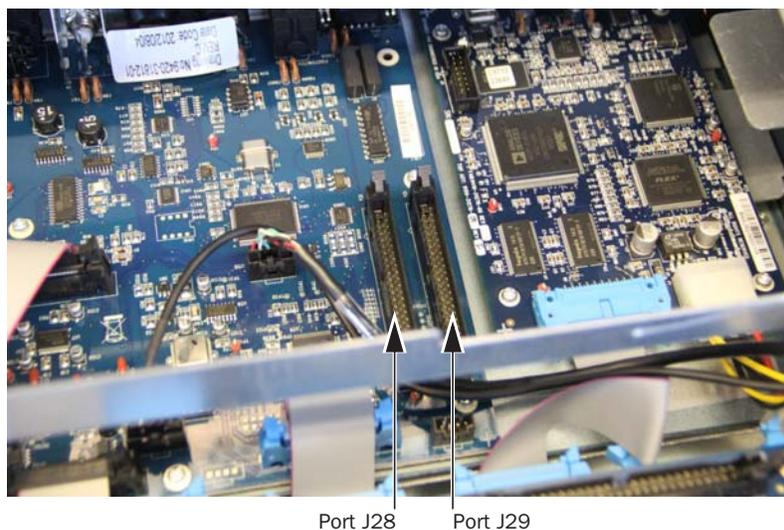

Figure 2-10 Main I/O card in SC48 and the ribbon cable ports
1. Inside the console, locate the Main I/O card (under the now-removed output cards), and connect the two included ribbon cables to the ports J28 and J29 (Figure 2-10).